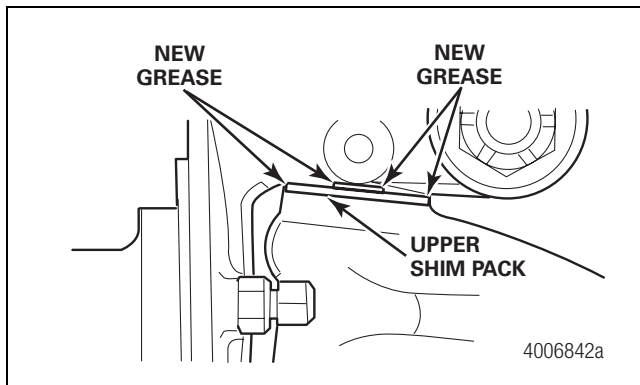

Figure 5.17
5. Apply lubricant into the top grease fitting until new grease purges from the upper shim pack. Figure 5.17.